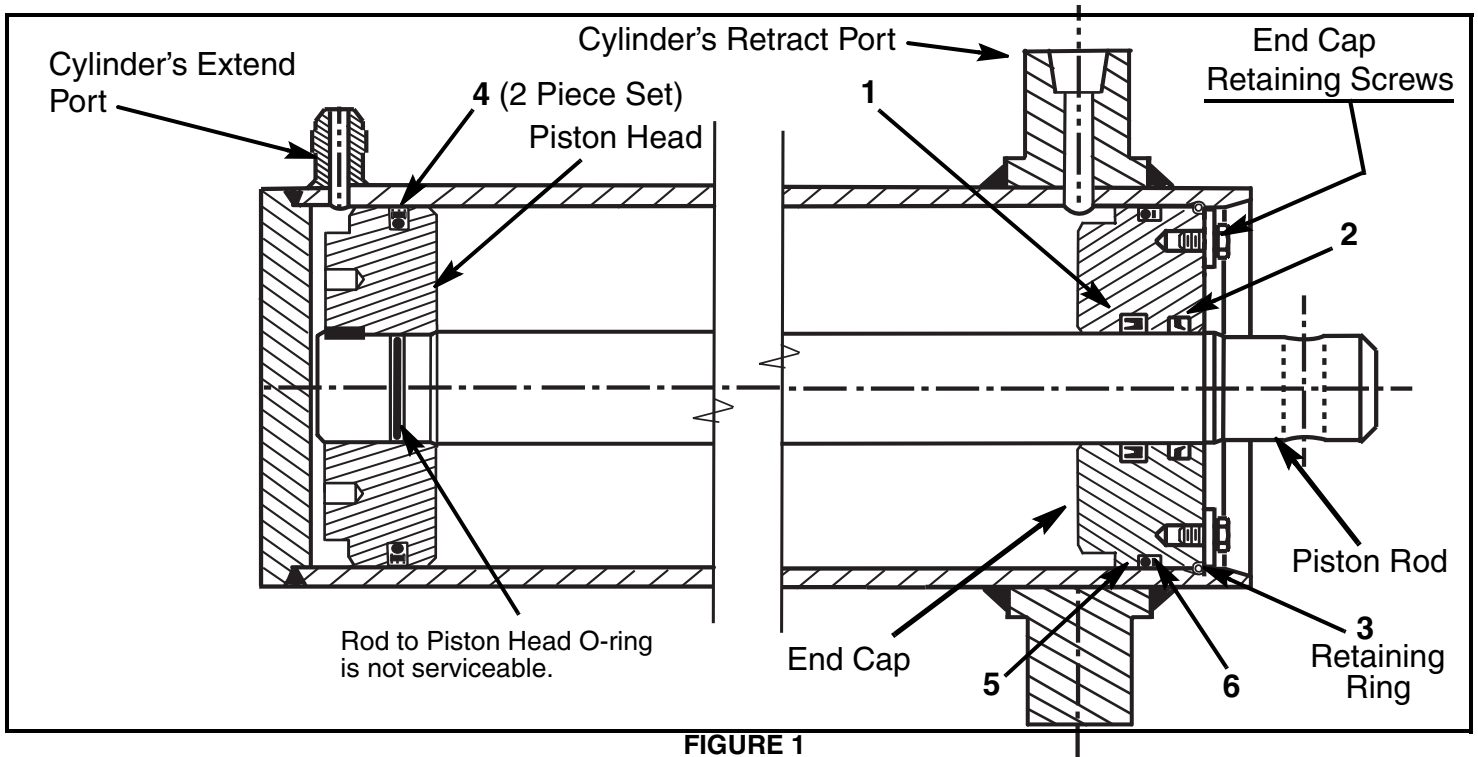

FIGURE 1
(See Figure 1)
24. Remove the two (2) end cap retaining cap screws and flat washers that are installed on the face of the end cap. See Figure 1.